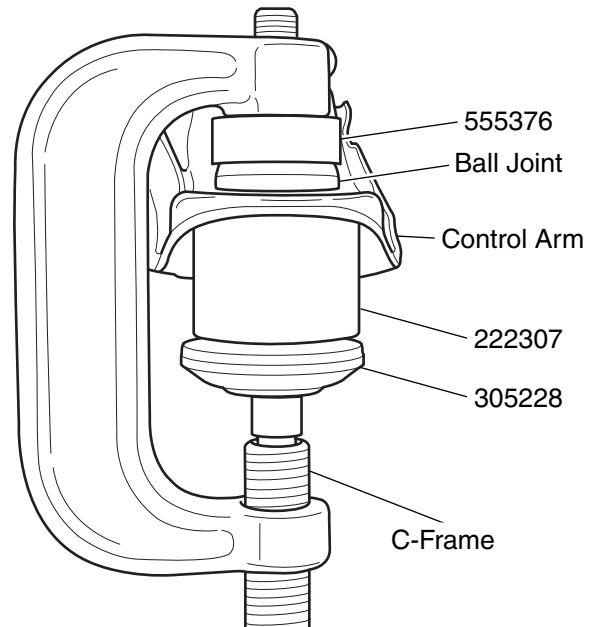

Figure 1. Ball Joint Removal
3. Position 222307, 305228 and the C-Frame as shown in Figure 1.